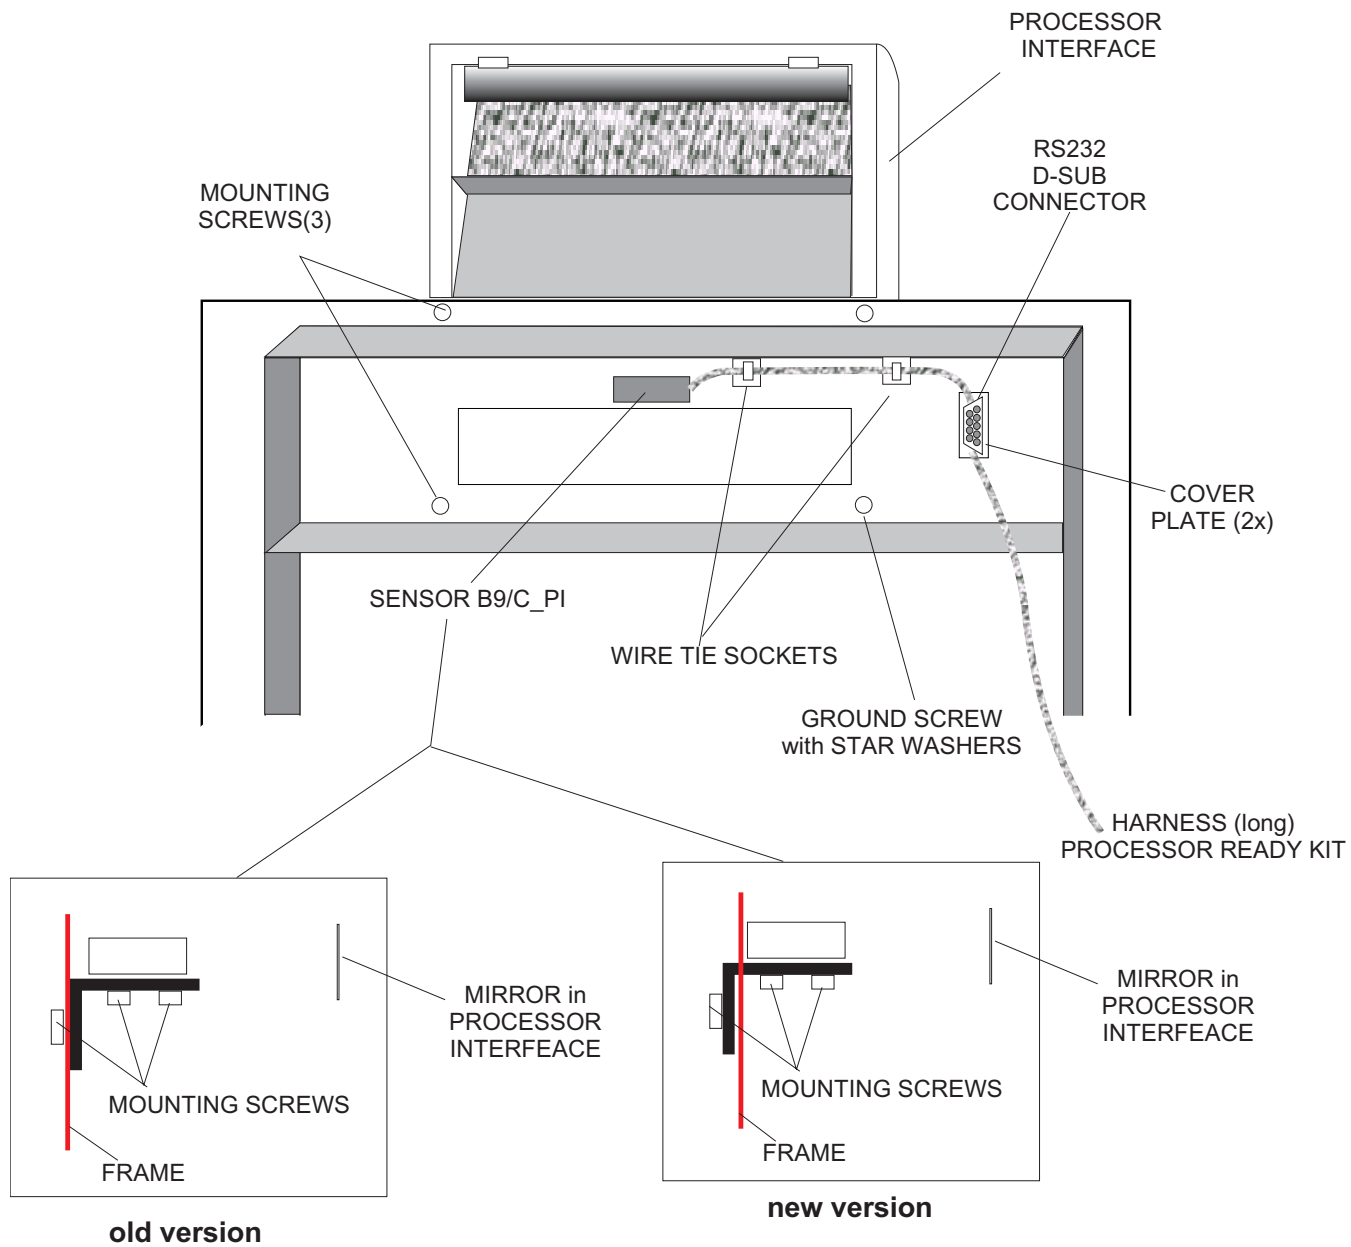

figure 1-9
- Without a FILM in the PROCESSOR INTERFACE, adjust R100 on PCB A8 to <500mV. If this value cannot be reached, change the position of SENSOR B9/C_PI. See figure 1-9.